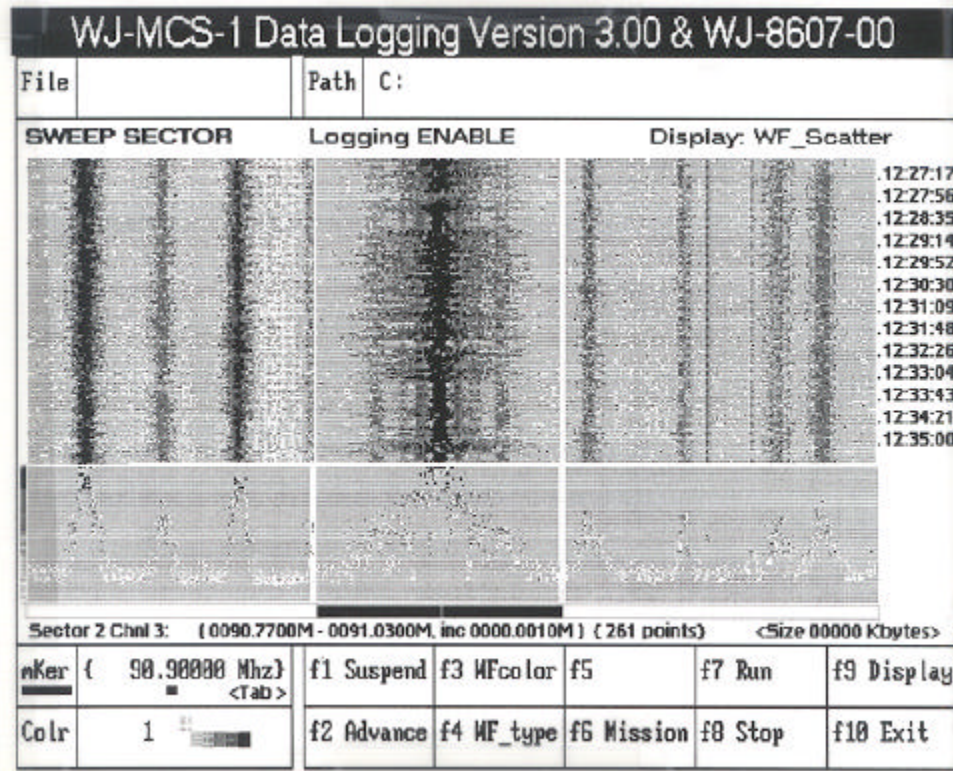

Figure I-31. DATA LOGGING WF_Scatter Display
- "WF_Scatter" - (waterfall scatter, shown in **Figure I-31**) provides the cumulative captured signal activities on the two-dimensional display by plotting points for each captured signal, color coded to show amplitude. The display is not cleared between sweeps, thus enabling the operator to view the signal activity over time.